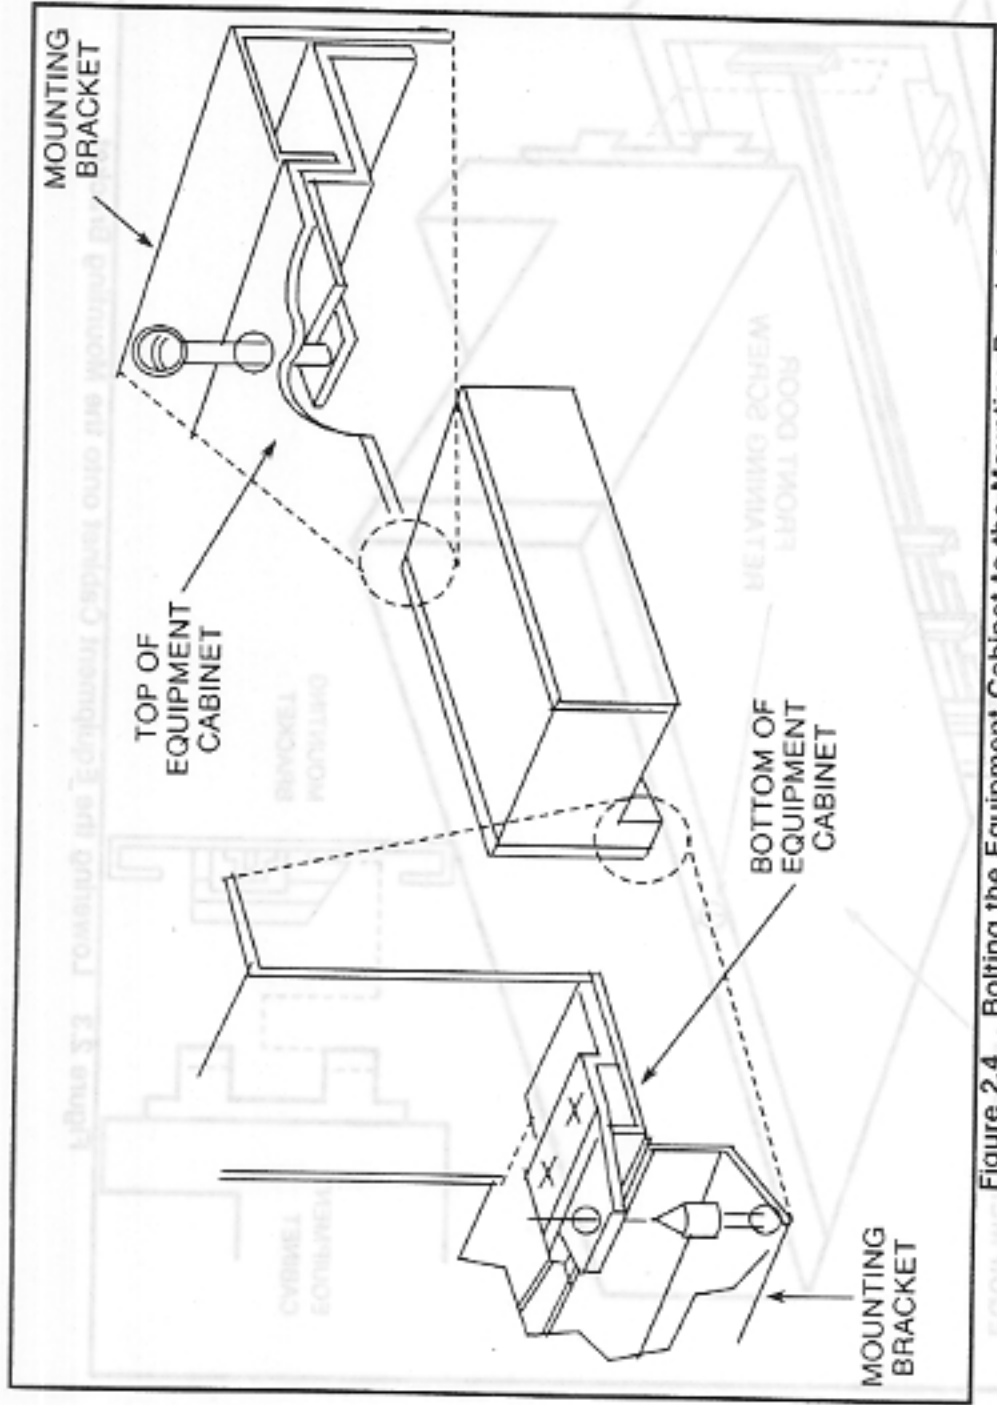

Figure 2.4 Bolting the Equipment Cabinet to the Mounting Bracket
2. Use four bolts and retaining washers to fasten the equipment cabinet to the mounting bracket as shown in Figure 2.4. Two of these bolts are located on top of the equipment cabinet, and two are located on the bottom.